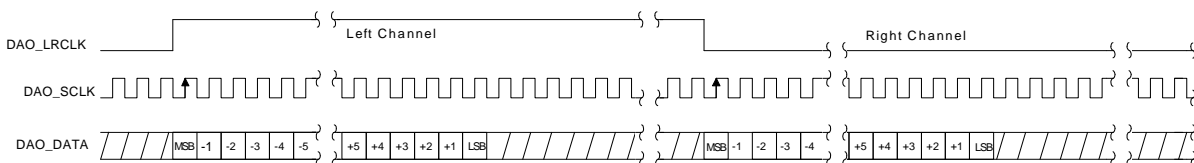

Figure 4-3. Left-justified Digital Audio Formats (Rising Edge Valid DAO_SCLK)
Figure 4-3 illustrates the left-justified (LJ) format with a rising edge DAO_SCLK. Data is presented most-significant bit first on the first DAO_SCLK after a DAO_LRCLK transition and is valid on the rising edge of DAO_SCLK. The left subframe is presented when DAO_LRCLK is high and the right subframe is presented when DAO_LRCLK is low. This format can also be programmed for data to be valid on the falling edge of DAO_SCLK.